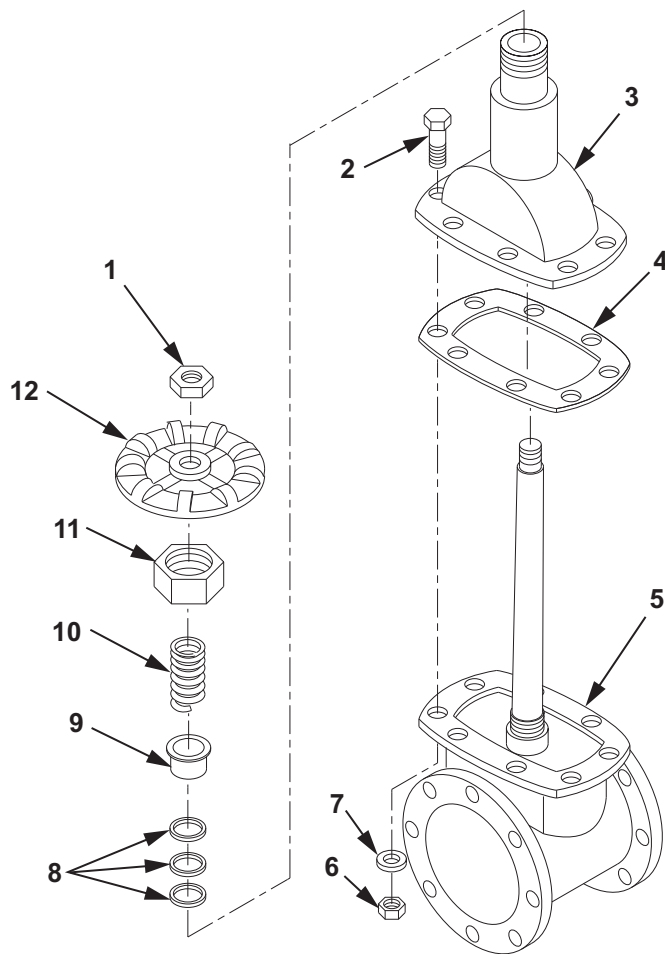

Figure 2. 4 In. gate Valve Assembly.
1. Install new bonnet gasket (Figure 2, Item 4) and bonnet (Figure 2, Item 3) onto gate valve (Figure 2, Item 5).
2. Install eight screws (Figure 2, Item 2), new lockwashers (Figure 2, Item 7) and nuts (Figure 2, Item 6) through bonnet (Figure 2, Item 3) and gate valve (Figure 2, Item 5). Hand tighten nuts (Figure 2, Item 6).
3. Using torque wrench and adapter, torque eight nuts (Figure 2, Item 6) to 40 ft lb (54 N·m).
4. Install new packing rings (Figure 2, Item 8), new packing retainer (Figure 2, Item 9), gland spring (Figure 2, Item 10) and packing nut (Figure 2, Item 11) onto bonnet (Figure 2, Item 3). Hand tighten packing nut (Figure 2, Item 11).
5. Install handwheel (Figure 2, Item 12) and wheel nut (Figure 2, Item 1) on gate valve (Figure 2, Item 5). Tighten wheel nut (Figure 2, Item 1).